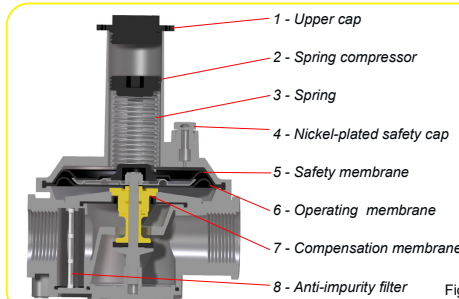

Fig.1
GAS GOVERNOR can be installed in systems with automatic gas burners and in industrial gas distribution systems. GAS GOVERNOR have three membranes fitted inside them a Operating membrane (6), a Compensation membrane (7) and a Safety membrane (5) (refer to Fig. 1). A breather pipe and external discharge outlet is not necessary because the safety membrane avoids a gas leak into the environment more than 30 dm³/h, point 3.3.2 of the UNI-EN88-1 Norms.
Unscrew the upper cap to gain access to the spring compressor (1) (Fig.1). The outlet pressure is regulated by rotating the spring compressor (2) in a clockwise direction to increase the pressure and in an anticlockwise direction to reduce the pressure. After making the adjustment, replace the upper cap (1).